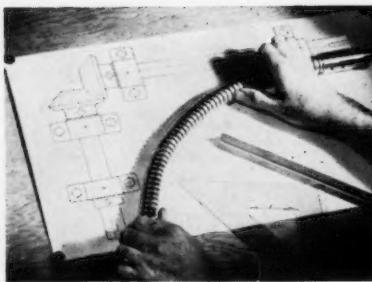

Fig. 2
**RELATIVE MOTION** — Where two shafts which have relative motion must be connected, flexible shafting is often the ideal means of transmission. In many cases it eliminates a much more complicated drive which would, necessarily, include telescopic joints; further, it eliminates the danger of exposed moving parts. See figure 2, which shows a  $\frac{3}{4}$ -inch Stow flexible shaft driving an Avery Rake built by the Minneapolis Moline Co.